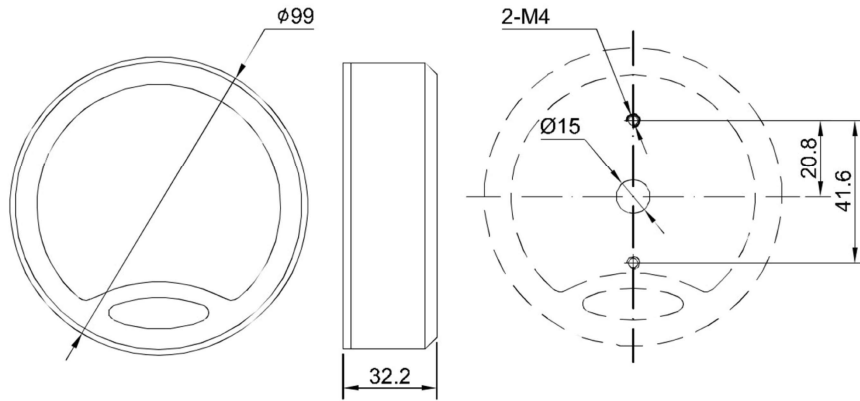

Fig. 2
7. Drill and tap two mounting holes for two M4(US Standard 8-32 UNC 2B) screws, one spindle hole on the safe front door or plate. Make sure three holes' center should be in one vertical line. The maximum diameter of the hole for the spindle is 15mm. Big holes are not permissible. (Fig. 2)